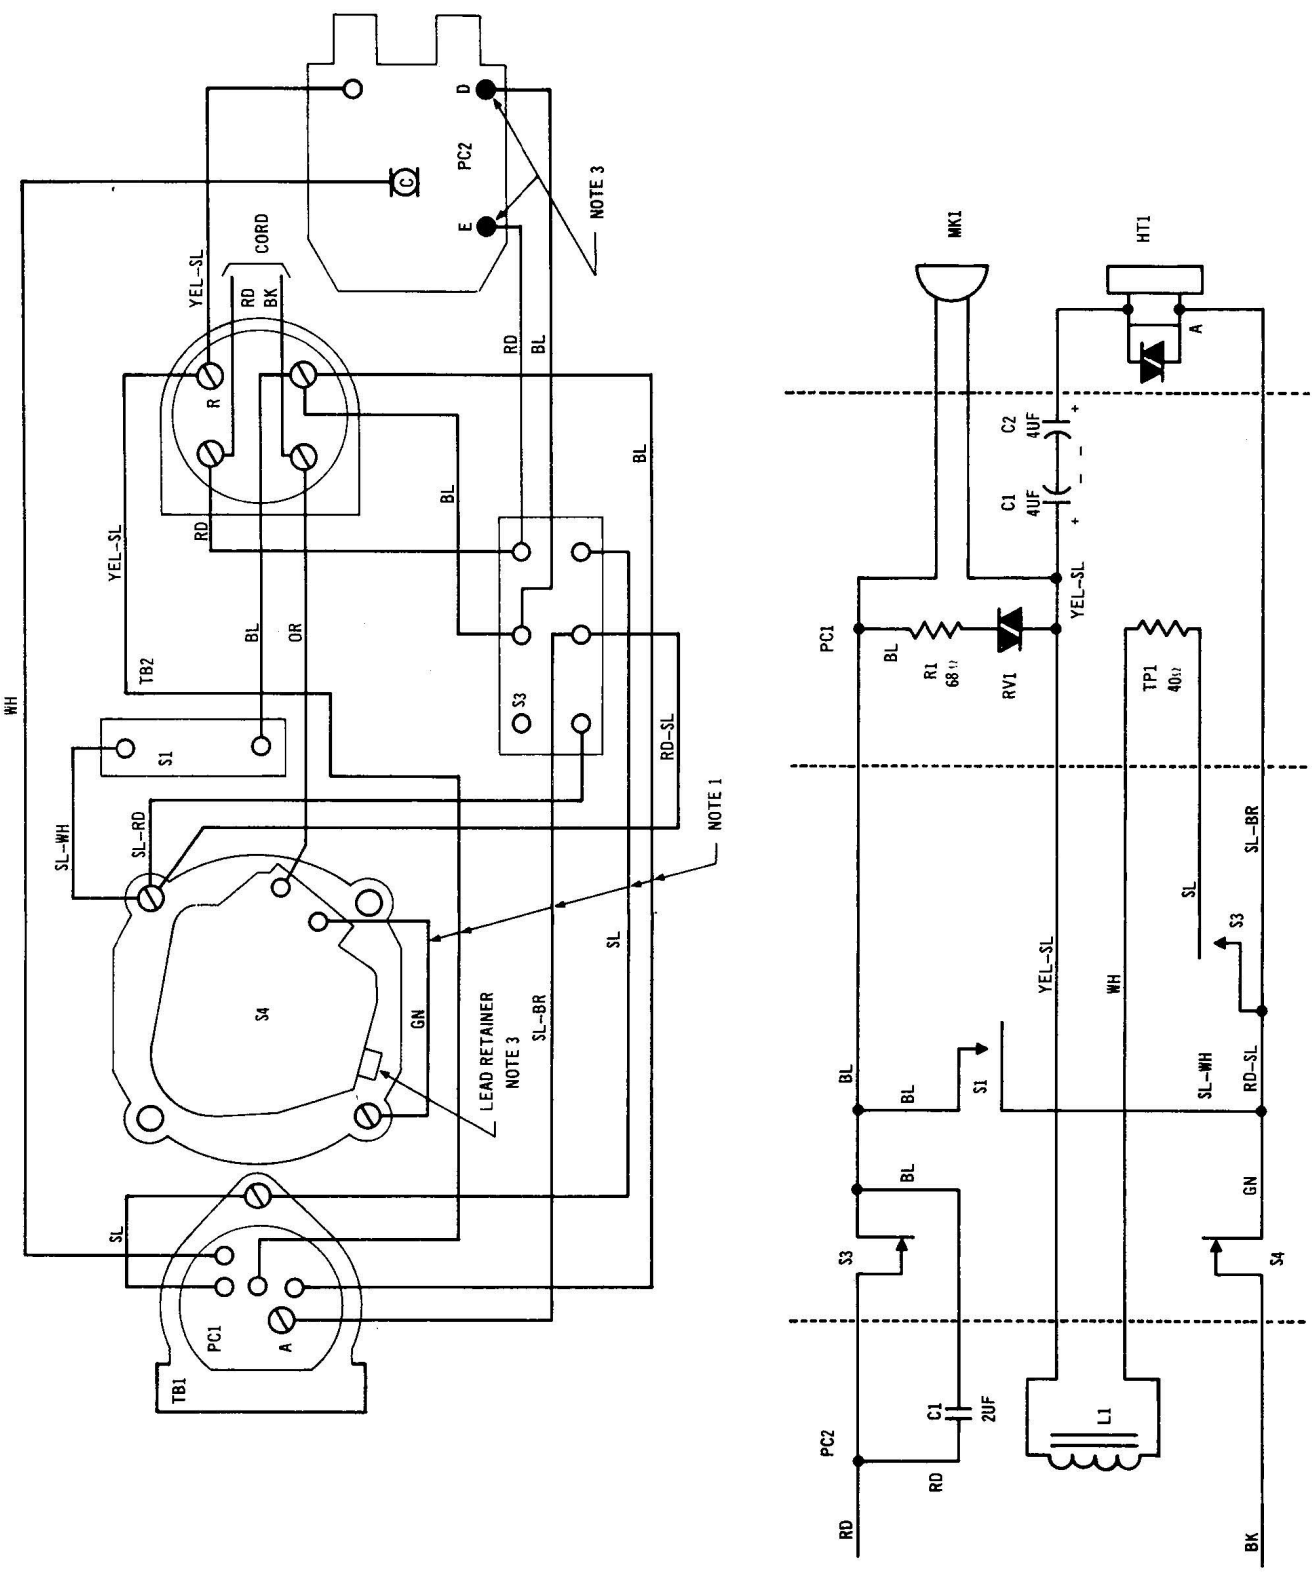

Fig. 3 QSE4A Handset Schematic and Wiring
2.02 The QSE4A1 and QSE4B1 handsets differ in their operational features and circuitry, as shown in Table A and Fig. 3 and 4.
- 2.07 Schematic and wiring diagrams of the handsets are shown in Figs. 3 and 4.